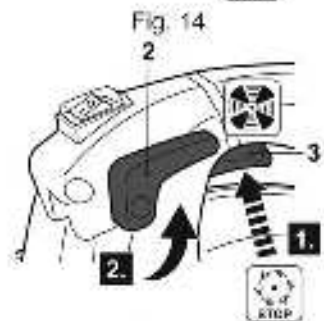

Fig. 15
- > Squeeze the throttle trigger (3) completely and hold it in position (Fig. 15, step 1).
- > Move the lock-on lever (2) upwards to lock the throttle trigger in position (Fig. 15, step 2).
- > Release the throttle trigger (3) afterwards. The throttle trigger is now locked on for continuous use.
- > Move the lock-on lever (2) downwards to release the throttle trigger and idle the engine.